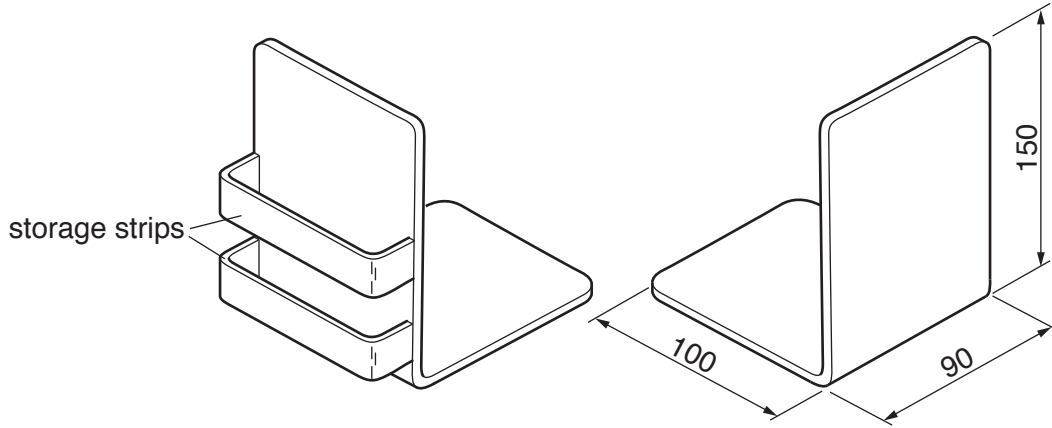

Fig. 7
- 11** Fig. 7 shows two bookends. The bookends could be made from plastic **or** metal. One bookend has two storage strips where pens and pencils could be stored.